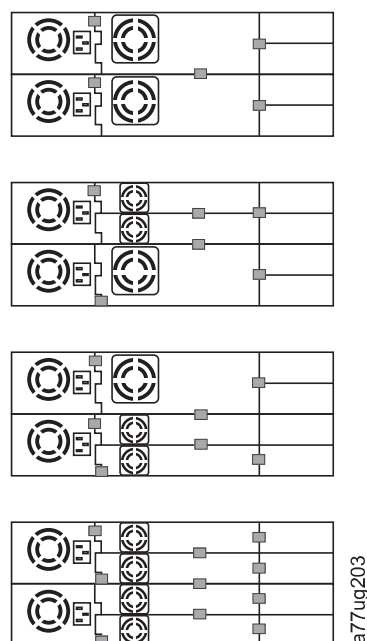

Figure 10-20. Drive sled taping diagrams
- i. If installing a drive sled without ESD springs (see Figure 10-19), apply conductive tape as shown in Figure 10-20 on page 10-20.